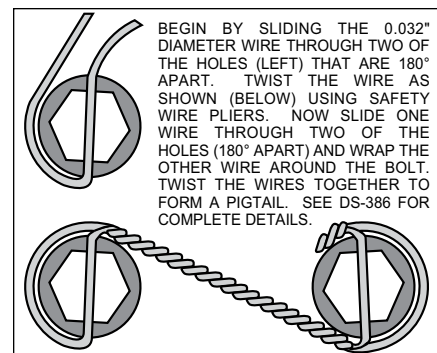

Figure 3. Safety Wire Diagram
- The flat spindle/caliper mounting bracket (1) should be installed first with clean, dry threads on the mounting bolts. Install the bracket on the back side of the spindle by sliding bolt (2) through the bracket (1) and into the upper hole of the spindle upright boss. Apply red *Loctite*® 271 to the threads and torque bolt (2) to 140 ft-lb. Slide bolt (3) through lower spindle “ear”, through the bracket (1), washer (4), and secure with locknut (5). Torque locknut (5) to 65 ft-lb. The bracket must tighten squarely against the side of the spindle body. Inspect for interference from casting irregularities, machining ridges, burrs, etc.
- With the larger I.D. side of the rotor (6) facing away from the hat (7), bolt rotor (6) to hat (7) through the backside of the rotor using bolts (9), and washers (8). Apply red *Loctite*® 271 to the bolt threads and torque to 155 in-lb using a criss-cross pattern. For an added measure of security, the bolts may be safety wired using standard 0.032 inch diameter stainless steel safety wire as shown in Figure 3. Please refer to Wilwood's data sheet DS-386 (available at www.wilwood.com/Pdf/DataSheets/ds386.pdf) for complete safety wire installation instructions.